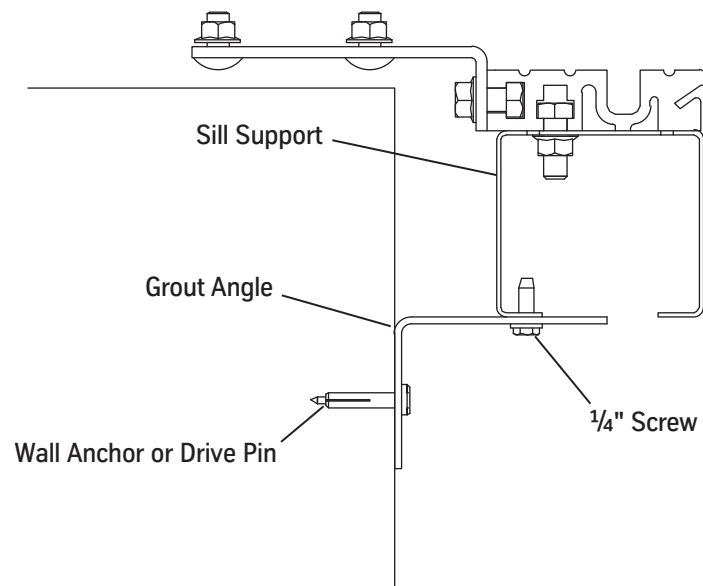

Figure 34 - Grout Angle Installation
1. Use self-tapping screws to install the grout angle on the bottom of the sill support and also tight against the hoistway wall. See Figure 34.